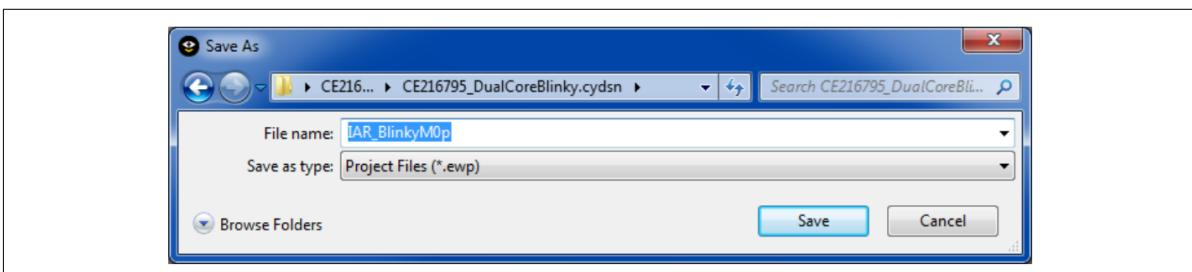

Figure 435 Create an IAR Embedded Workbench project for CM0+
Recommended: in the Save As dialog (Figure 435), name the project based on the original PSoC™ Creator project name and the target CPU. For example, for the CE216795 dual-core blinky project, create a µVision project IAR_BlinkyM0p for the CM0+ CPU
Repeat the previous steps and create a second project for CM4. **Recommended:** name the project based on the original PSoC™ Creator project name and the target CPU. For example, for the CE216795 dual-core blinky project, create IAR-EW project IAR_BlinkyM4; see Figure 435. Configure the project similar to the CM0+ project, with the following differences:
- The CM4 project must be in the same folder as the CM0+ project; in this case, your PSoC™ Creator <project>.cydsn folder. See Figure 435